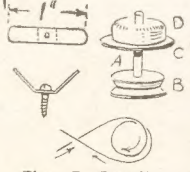

Fig. 5—Details of small fittings
Now take in hand the making of the steering arrangement, details of which are shown in Fig. 5. First cut a piece of $\frac{1}{2}$ in. round rod (A), 1 $\frac{1}{2}$ ins. long, and on the lower end glue the grooved wheel (B). This may be 1in. diameter and the groove round the edge can be cut in with a rat-tail file.
Push the round rod through the hole in the deck from below and lay over it the thin disc (C) consisting of felt or rubber. Then again, above this, glue on the plain $\frac{1}{2}$ in. disc (D) to form a kind of knob for turning. Thus, when a fine piece of cord is attached to the front cross axle and brought back and carried round in a double loop as seen in Fig. 5, round the grooved wheel, the axle can be held firmly in place, the washer forming sufficient grip to hold it until the knob is again moved.
inside the fold or just tied to the three corners. The mainsail at the stern is held down by a cord attached to the spar and run through eyes in the deck. From here it is fastened by being wound on a cleat or bollard, formed up from a small length of brass strip holed in the middle and bent up and screwed to the deck. The detail of the cleat is given in Fig. 5.